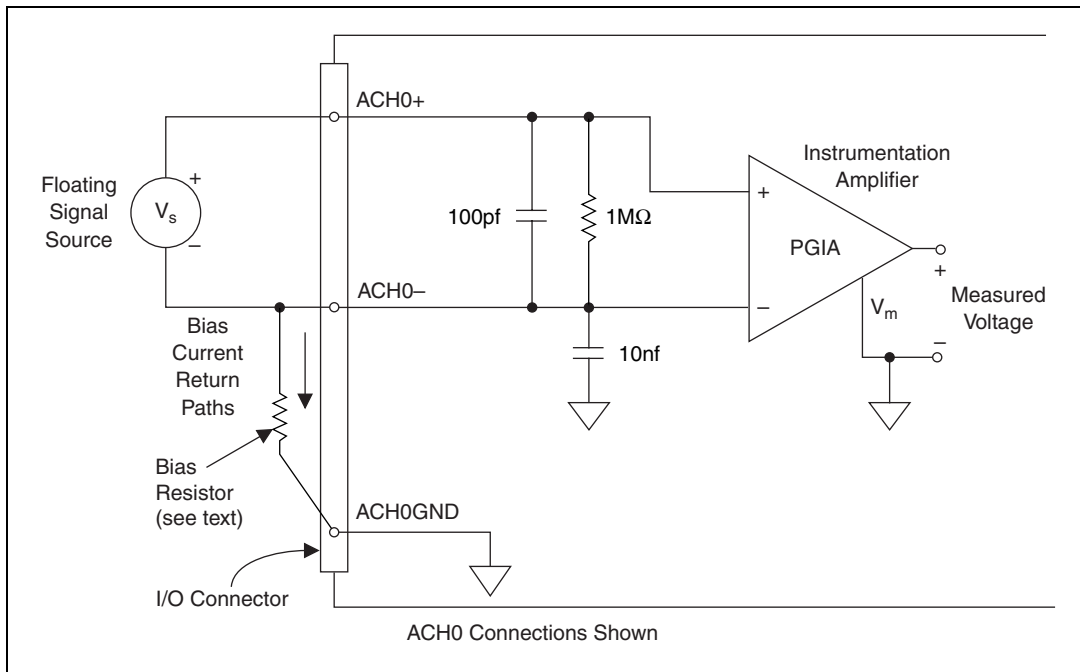

Figure 4-5. Differential Input Connections for Nonreferenced Signals
Figure 4-5 shows how to connect a floating signal source to a channel on the NI PCI-6110/6111.
Figure 4-5 shows a bias resistor connected between ACH0- and the floating signal source ground. If you do not use the resistor and the source is truly floating, the source often floats outside the common-mode signal range of the PGIA, and the PGIA saturates, causing erroneous readings. You must reference the source to the respective channel ground.
1. The common-mode voltage (V_{cm}), which is equivalent to subtracting ACH<0..3>GND from ACH<0..3>- and which is shown in Figure 4-5, must be less than ± 11 V. This V_{cm} is a constant for all range selections.
2. The signal voltage (V_s), which is equivalent to subtracting ACH<0..3>- from ACH<0..3>+ and which is shown in Figure 4-5, must be less than or equal to the range selection of the given channel. If V_s is greater than the range selected, the signal clips and information is lost.